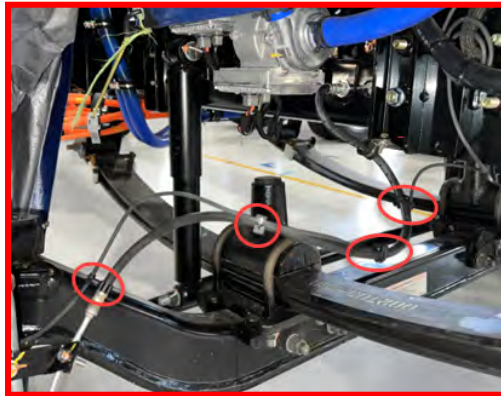

Figure 13 - Retention Clips
4. Remove the retention clips from the brake hose, leaving the other side clipped to the ABS speed sensor wire. (Figure 13 & 14)